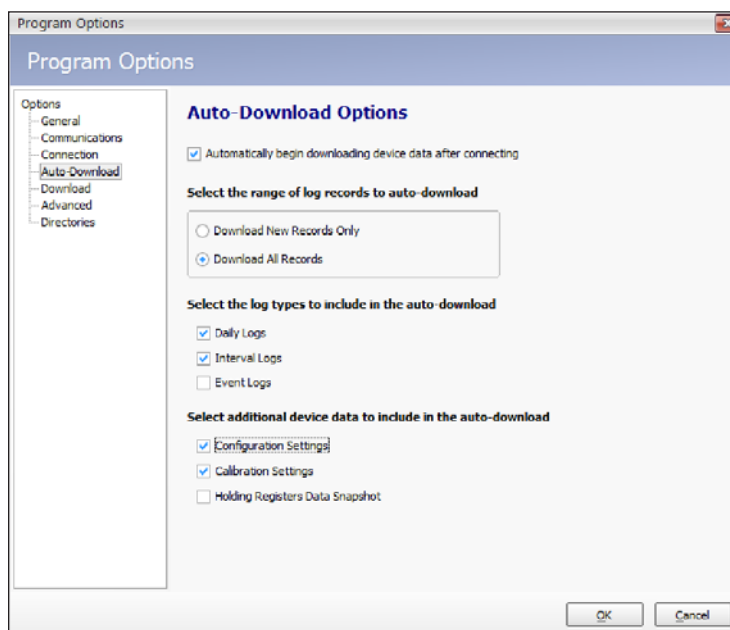

Figure 14.4
2. When the Program Options dialog opens, click the **Auto-Download** option from the list at the left side of the screen (Figure 14.4).